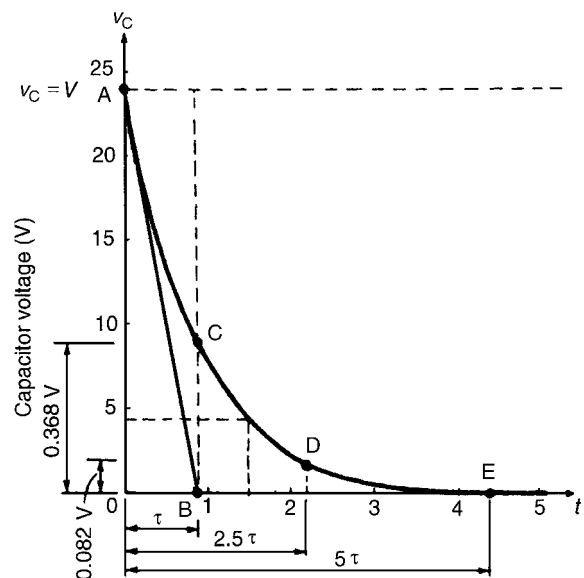

Figure 18.5
- The exponential decay of capacitor voltage is from 24 V to 0 V in a time equal to five time constants, i.e. $5 \times 0.88 = 4.4$ s. With reference to Fig. 18.5, to construct the decay curve:
- (vi) the value of the transient after a time equal to two and a half time constants is 0.082 of the initial value, i.e. $0.082 \times 24 = 1.97 \text{ V}$, shown as point D in Fig. 18.5,
- (b) The voltage drop across the resistor is equal to the capacitor voltage when a capacitor is discharging through a resistor, thus the resistor voltage/time characteristic is identical to that shown in Fig. 18.5 Since $v_R = v_C$, then at 1.5 seconds after decay has started, $v_R \approx 4.4 \text{ V}$ (see (vii) above).